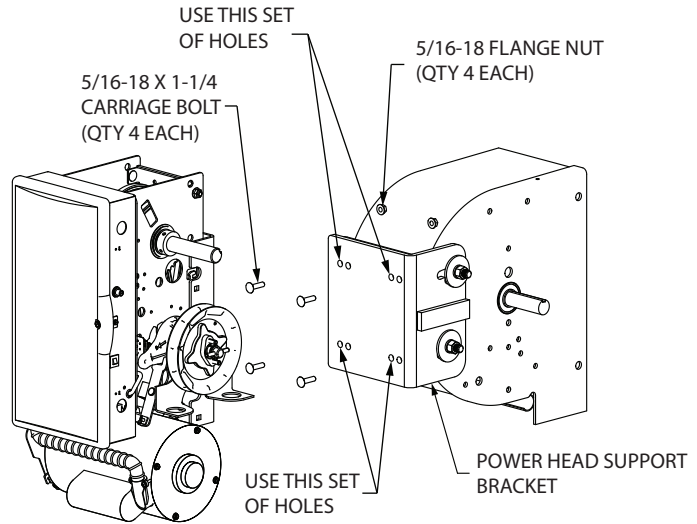

Figure 2
- 2) Attach Operator to Powerhead Support bracket using the fasteners provided. **Figure 2.**